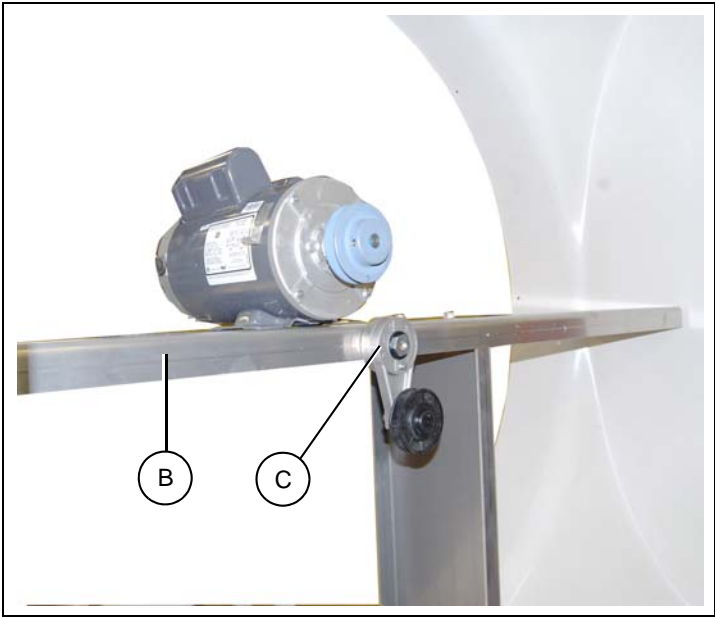

Figure 8K
- 1. Align the motor (A) with the four (4) holes in the bearing plate (B) located next to the tensioner arm (C). (See Figure 8K.)